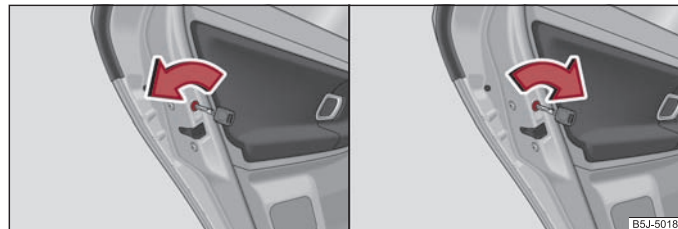

Fig. 25 Switching child safety lock on: for vehicles without or with central locking system
- On vehicles without central locking system, turn the slot of the safety lock on the left door to the left ⇒ page 36, fig. 25, on the right door turn it to the right.
- On vehicles with central locking system, turn the slot of the safety lock on the left door to the right, on the right door turn it to the left ⇒ page 36, fig. 25.